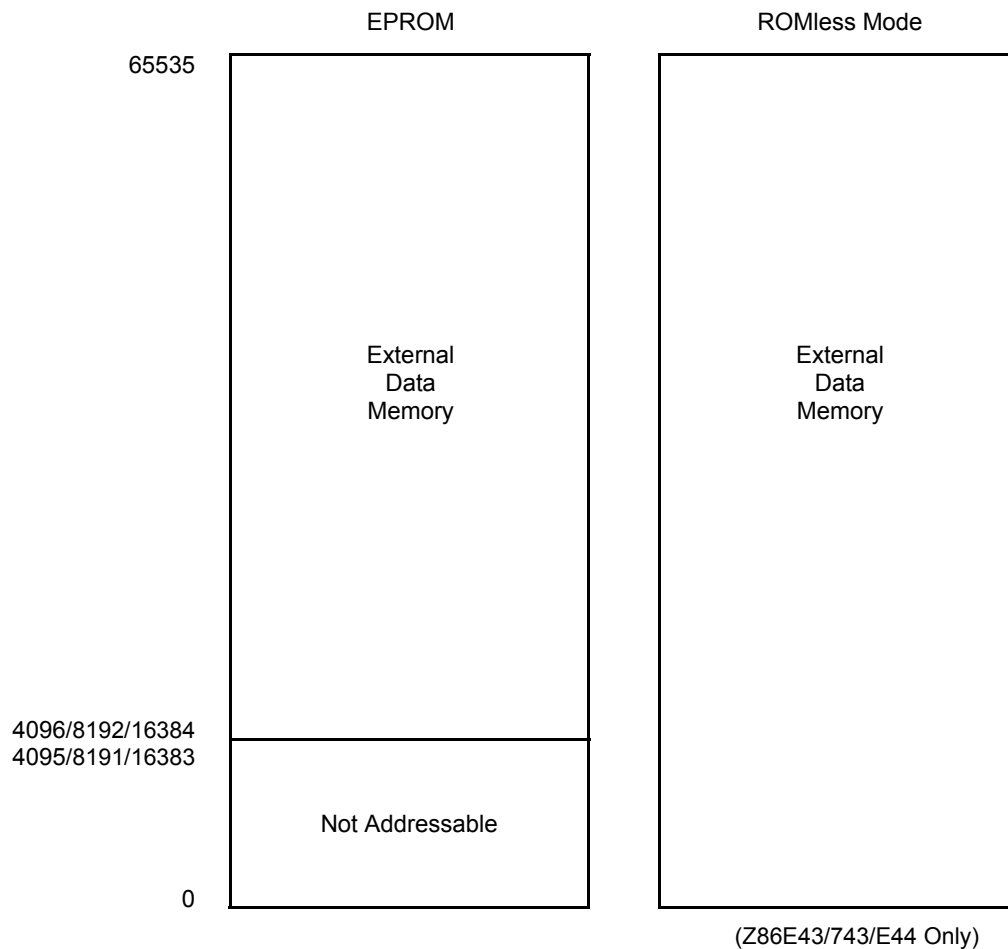

Figure 23. Data Memory Map
Data Memory (DM). In ROM Mode, the Z86E43/743/E44 can address up to 60156/48 KB of external data memory beginning at location 4096/8192/16384. In ROMless mode, the Z86E43/743/E44 can address up to 64 KB of data memory. External data memory may be included with, or separated from, the external program memory space. $\overline{DM}$, an optional I/O function that can be programmed to appear on pin P34, is used to distinguish between data and program memory space (Figure 23). The state of the $\overline{DM}$ signal is controlled by the type of instruction being executed. An LDC opcode references PROGRAM ($\overline{DM}$ inactive) memory, and an LDE instruction references data ($\overline{DM}$ active Low) memory.